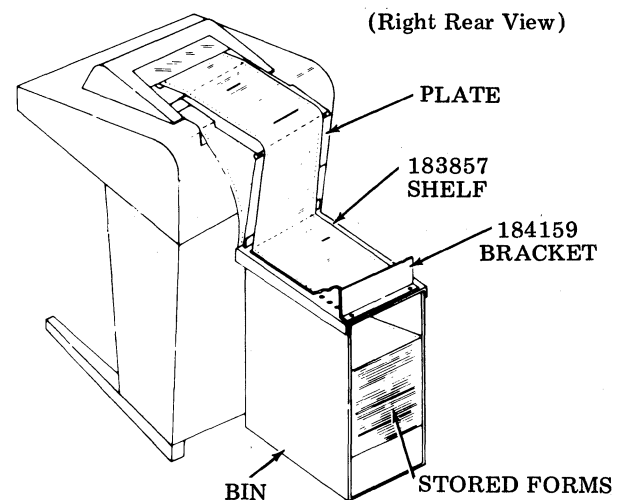

Figure 3 - 183859 Modification Kit to Provide Model 33 Cabinet With a Paper Supply Bin and Accumulation Shelf
2.11 The 183859 modification kit will accumulate forms 8-1/2 inches wide varying in length from 6 to 12 inches. Forms are stored in the bin. They feed from inside the bin, under the shelf, under the plate, and under the platen mechanism. (See Figure 3.) Printed forms are accumulated on the 183857 shelf.
2.13 In order to accommodate the various lengths of forms, the 184159 bracket may be positioned at various points on the 183857 shelf (Figure 3). Operator assistance may be required so the forms accumulate properly.